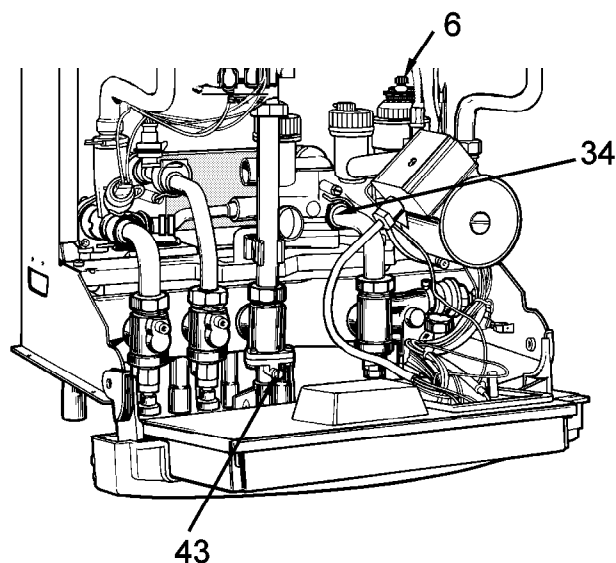

Fig. 19
- Open the automatic air vent (20 Fig. 19)
- Drain boiler and check water filter (34 Fig. 19) for installation debris.
- Connect gas pressure gauge to set test point (43 Fig. 19).